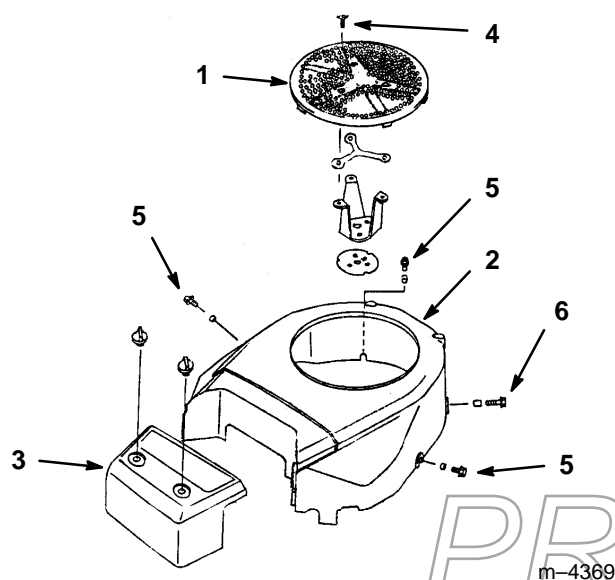

Figure 22
2. Remove air-intake screen, air cleaner cover, fan housing and bolts (Fig. 22).
4. Reinstall air-intake screen, air cleaner cover, fan housing and bolts. Install bolts to 4.3 ft-lb (5.9 N-m) torque (Fig. 22).